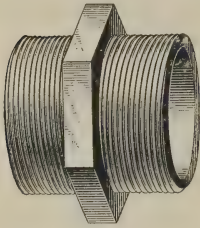

FIG. 27
**41.** A nipple with a hexagon center is shown in Fig. 27. It is made of malleable iron cast in the form of a sleeve. As it is used chiefly for connecting materials that cannot be turned, it is threaded right hand and left hand, as shown. It is screwed up by means of a narrow wrench, usually called a **spanner**, and applied to the hexagon center. In these nipples, both threads have the same length. They are used chiefly for connecting up sections of radiators.